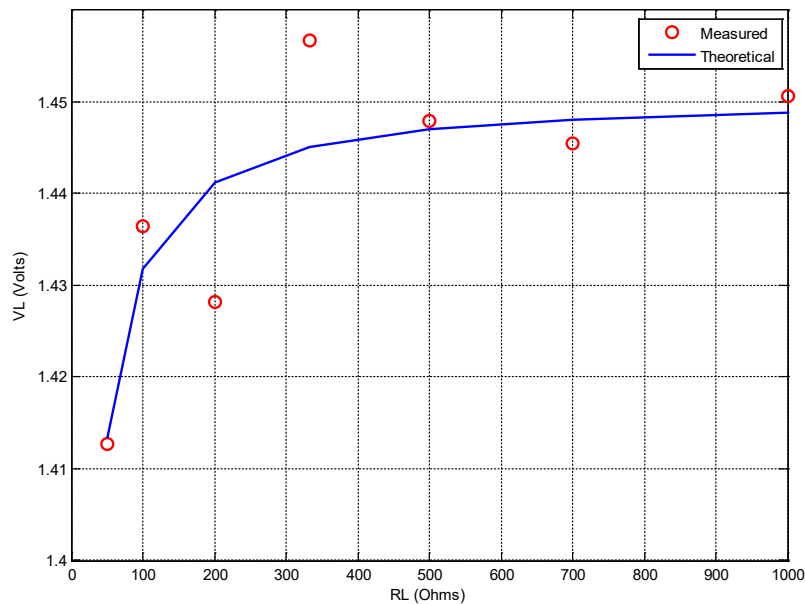

Figure 2.5: A typical plot showing a comparison of measured and theoretical values.
In your lab report, you should make a plot of your measured data (plot V_L vs. R_L). You should also find the appropriate theoretical curve (e.g., from equation (1)) with values of (R_S, V_S) that make the theoretical curve have the “best fit” to the measured data. In so doing, you will have determined the voltage, V_S , and internal resistance, R_S , of the battery. A typical plot is shown in Figure 2.5.